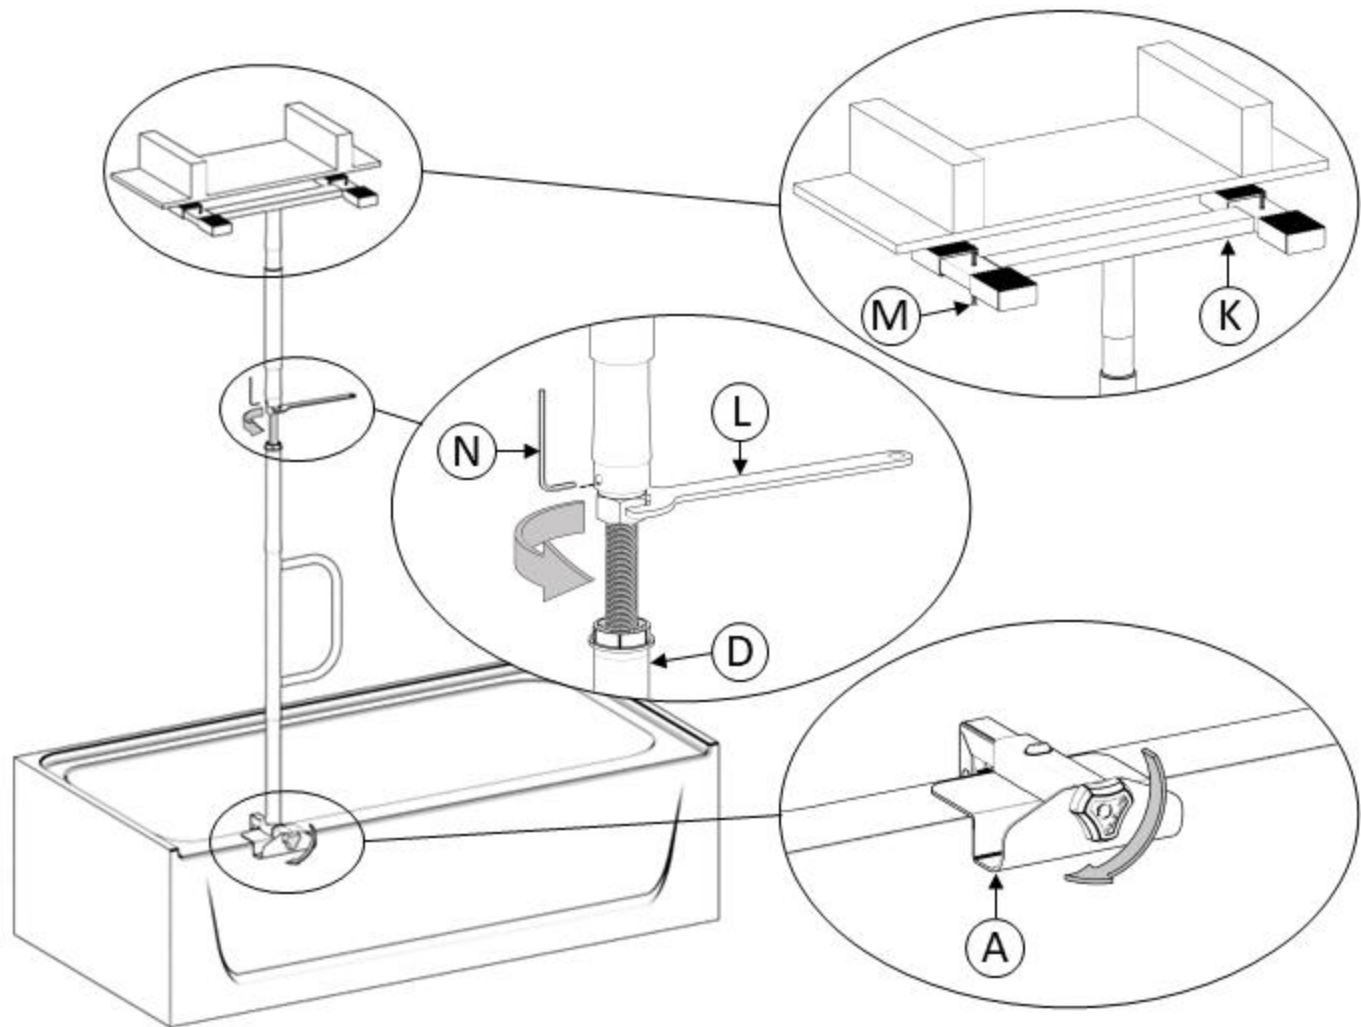

FIGURE 7
7. Ensure that the product is completely vertical (plumb) and that the handle is in the direction you want it to stay in. Rotate the nut on **D** counter clockwise using **L** as shown in *FIGURE 7*. Tighten the set screw using tool **N**. Then slide **E** down to cover threads. Fully tighten **A**. Ensure the product is secured between the bathtub and the ceiling with **ABSOLUTELY NO** sliding of the product. **Caution:** Do not overtighten as doing so may damage the bathtub, ceiling, or this product. **OPTIONAL:** Use the provided screws, **M**, ensuring that **M** goes into the Ceiling Joists.